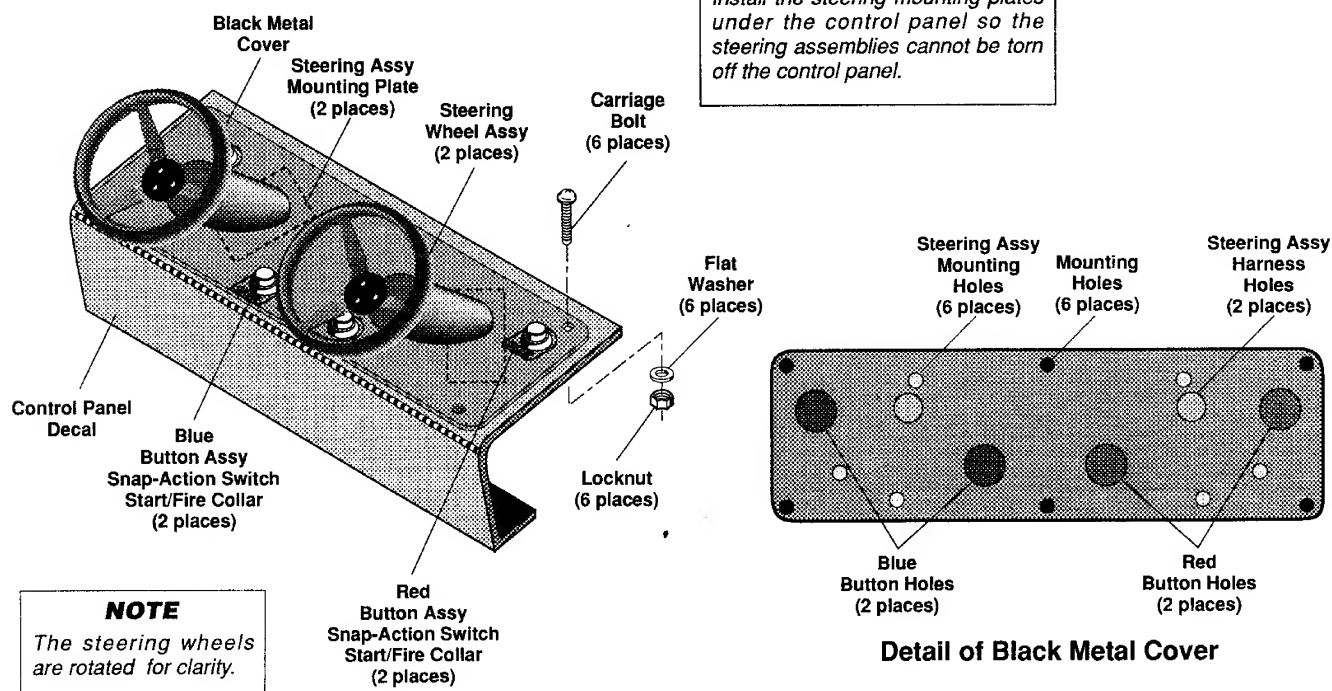

Figure 1-3 Assembling the Control Panel
1. Lay the black metal cover plate over the bare control panel. Line up the two center button holes on the metal cover plate with the two center button holes on the control panel. Screw two buttons in the two center holes. See Figure 1-3. (If your control panel does not have the two center button holes in the correct position, just center the metal cover plate on the control panel.)